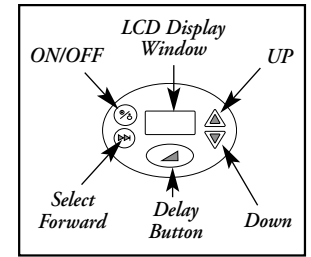

Figure 5
1. Keypad/LCD Display (refer to **Figure 5** for LCD symbol definition)
- Refer to **Figure 5** for LCD symbol definitions.